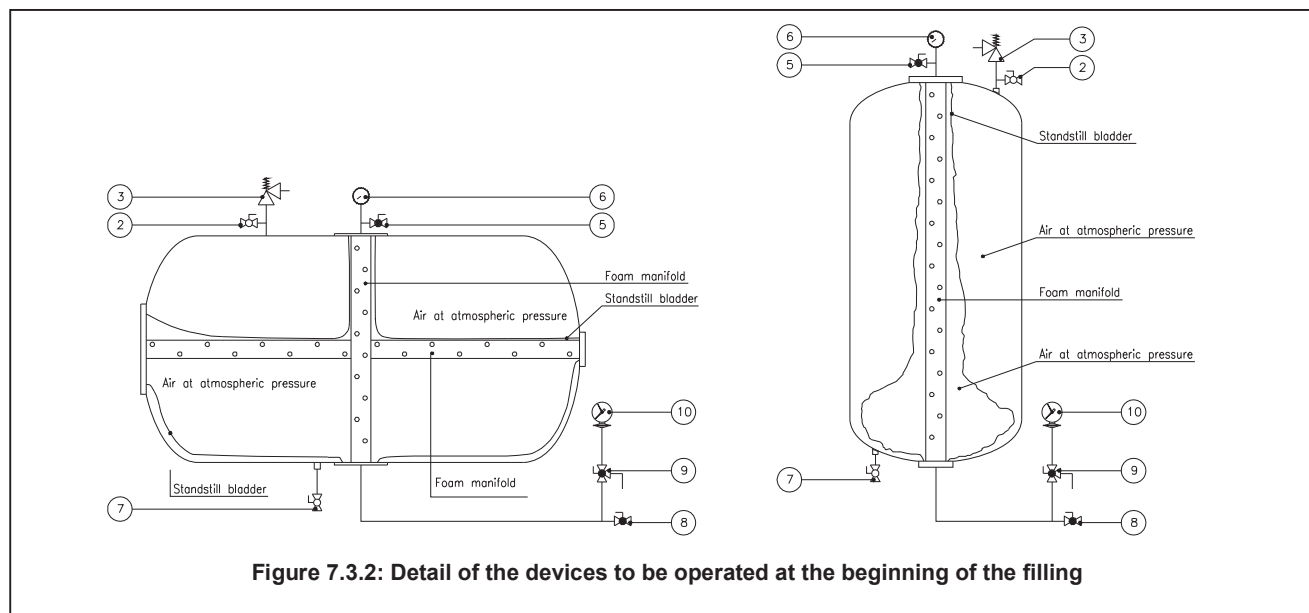

Figure 7.3.2: Detail of the devices to be operated at the beginning of the filling
2. Keep valves (11) and (12) closed and open the valves (2) and (7). Some water drainage from valve (7) is normal as all Viking bladder tanks are hydrotested during the manufacturing process. The bladder tank's condition at this stage is represented in **figure 7.3.2**.